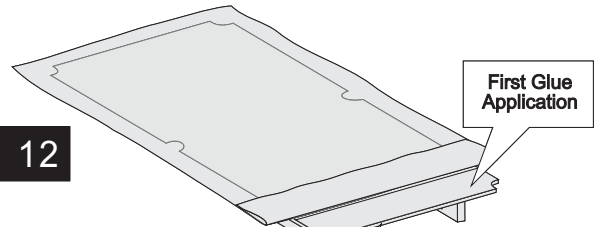

Figure 12
31. Fold cloth away from end to expose slate/slatron for your first glue application. Apply contact cement to top surface in a band 4 inches wide on this end. (See Figure 12) Coat edge also. Spray cement smoothly and evenly. Allow cement to become tacky, wait at least